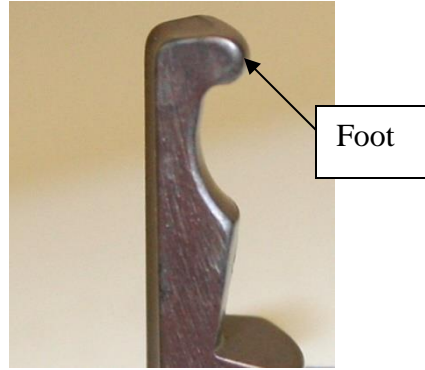

Figure 10 – Collet Section
a. Foot (sometimes called toe): The portion of the collet that contacts the mounting cup pushing it out and under the can curl (see Figure 10).